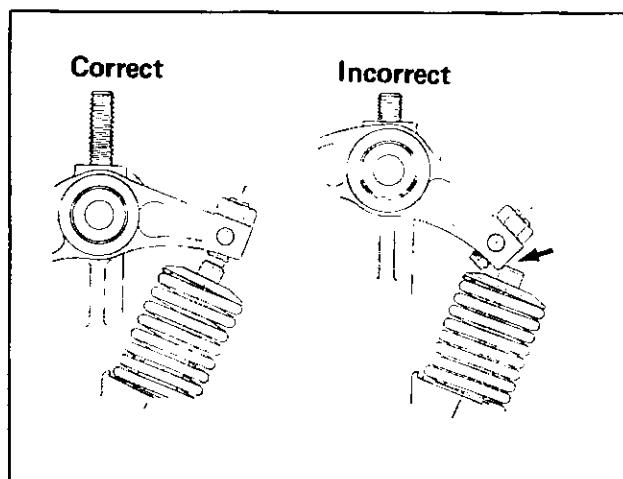

Fig. EM-64 Setting of rocker arm
b. Take sufficient care in positioning the rocker, since the tip of the bolt is apt to get out of the valve stem, as shown in Figure EM-64.